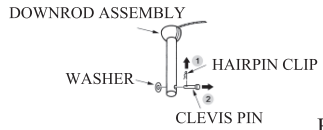

FIG.1
1. Remove the hairpin clip & washer from the clevis pin and remove clevis pin from down rod. (See fig.1)
4. CONNECTING THE RECEIVER (FIG.1)